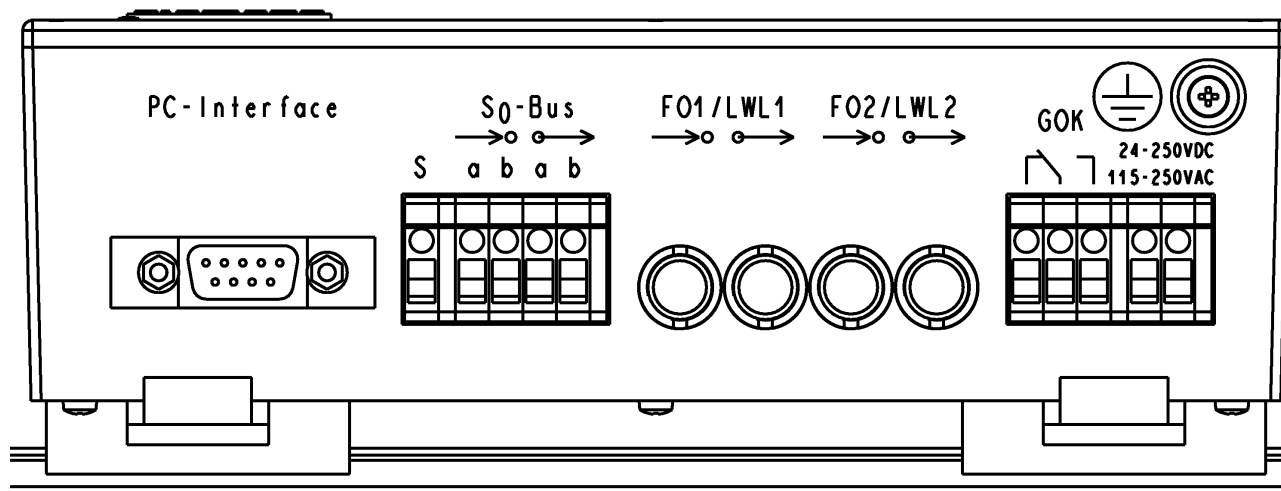

Figure 22 Interfaces and connections
The following interfaces and connections are located on the device side (Figure 22):
- ❑ **PC-Interface:** The PC-Interface (RS 232, 9-pole SUB-D connector see figure 22) is used for the parameter assignment of the CC-S₀. A special configuration program, FOS0-Configurator, which can be downloaded from http://siemens.siprotec.de/download_neu/ind_acc_e.htm. Alternative a simple Terminal Program, e.g. Hyper Terminal, can also be used. The connection cable between the PC and CC-S₀ is the standard DIGSI[®]-communication cable 7XV5100-4.